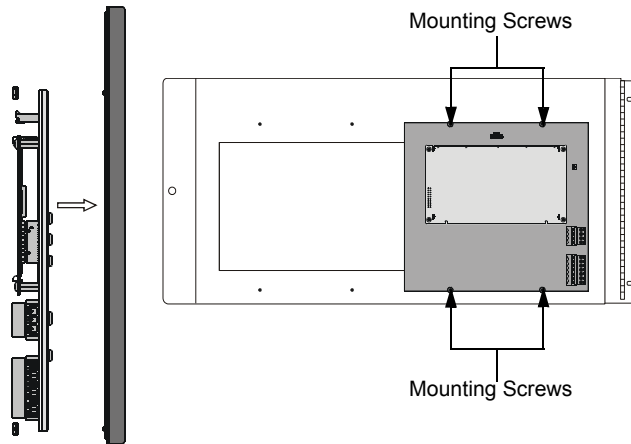

Figure 5.2 Mounting the LCD-160 to the Dress Panel
1. Mount the LCD-160 to the dress panel (Figure 5.2).